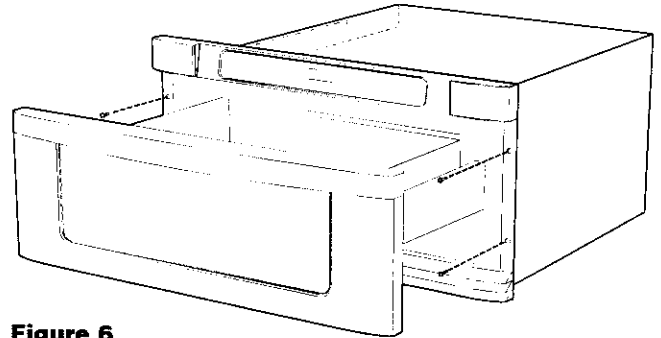

Figure 6
4. Secure the drawer with the 4 screws. See Figure 6.